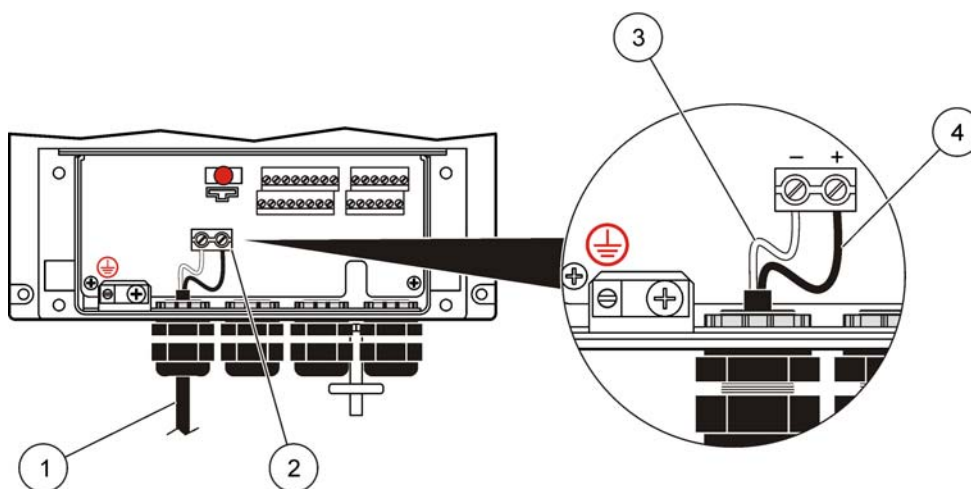

Figure 2 Wiring the Flo-Station for DC power
3. Install the negative wire (white) into the left side of the power terminal first. Then install the positive wire (black) in the right side of the power terminal. Refer to Figure 2. Tighten each wire and then tug gently to make sure the connection is tight.